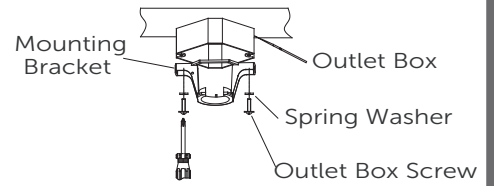

Fig. 2a
2. Securely attach the mounting bracket to an outlet box marked "Acceptable for Fan Support", using the supplied outlet box screws with spring washers (Fig. 2a).